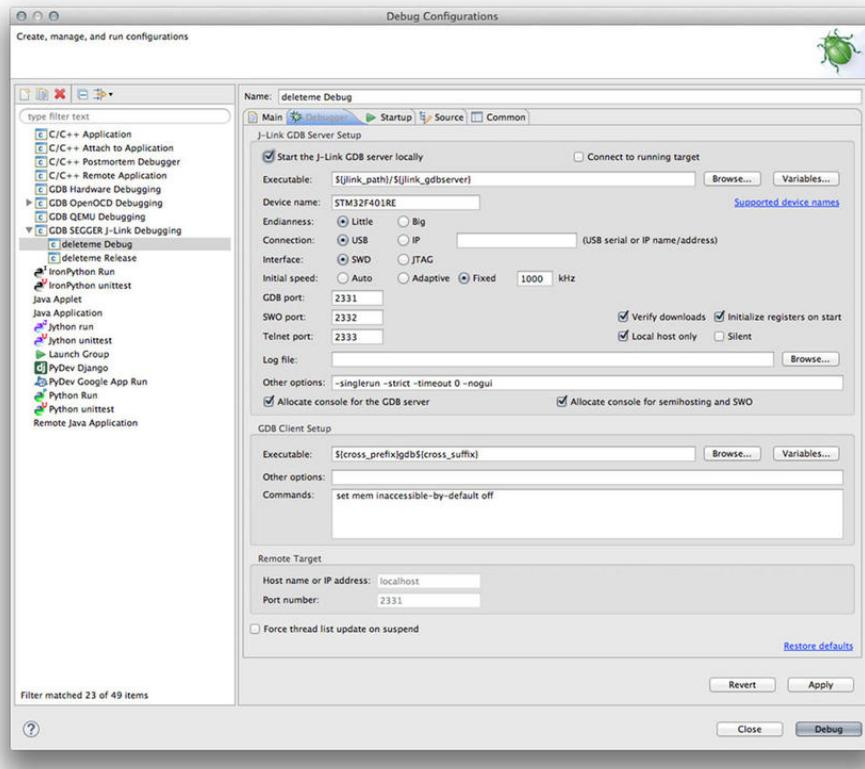

Figure 21: The Debugger section in a J-Link Debug configuration
**Main**, **Source** and **Common** tabs are identical to ones found in the GDB OpenOCD Debugging configuration and we will not describe them here (refer to Chapter 5). The **Debugger** section, shown in **Figure 21**, contains configuration parameters regarding the debug interface and the specific STM32 MCU to debug. Let us review the most relevant fields in that section.